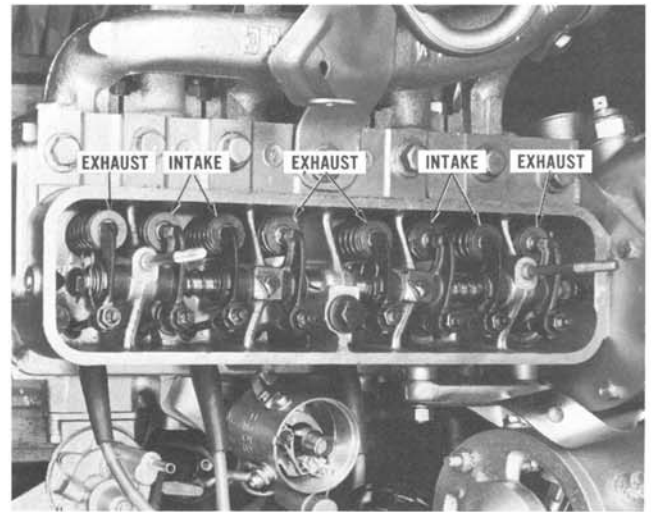

FIGURE 6. EXHAUST AND INTAKE VALVE LOCATION
- Remove the valves and place them in order in a rack with holes numbered for both intake and exhaust so they will not be mixed in handling. Intake and exhaust valve stem keepers are not interchangeable. Keep separated (Figure 6).